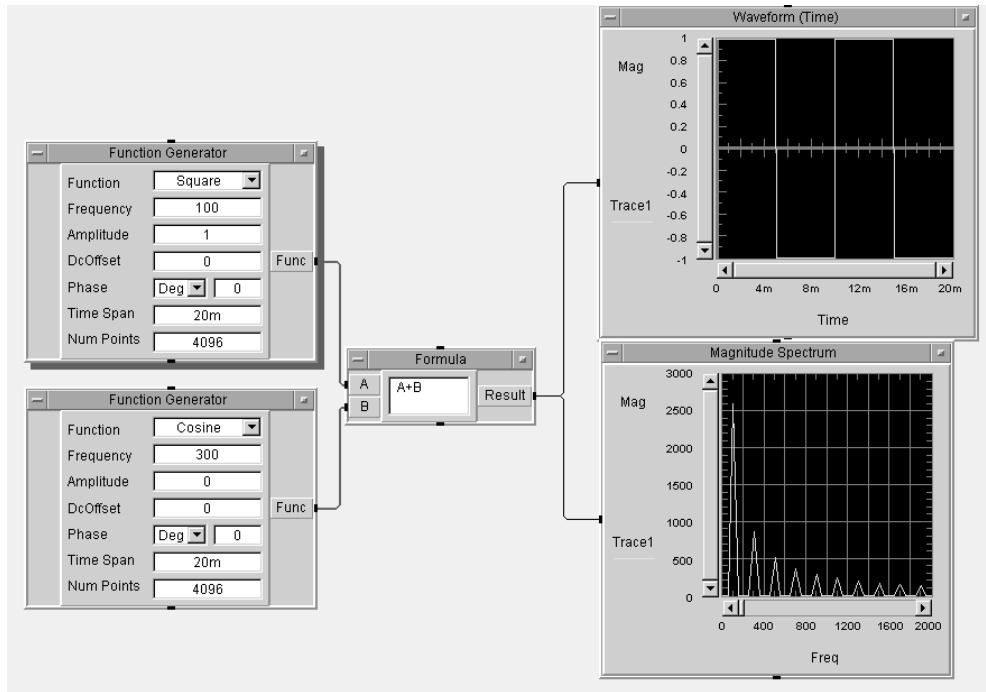

Figure 13.2. A square wave and its frequency spectrum
- ◇ 10. Select Square from the Function Generator Function list; change the Spectrum Analyzer setting to 2000; change the Formula equation to $A+B$; change the bottom Function Generator amplitude to zero; run your program again. What differences do you observe? Can you explain these differences? See Figure 13.2. Record the results and remarks in the table on page 13-6 for these *and the waveforms below*.